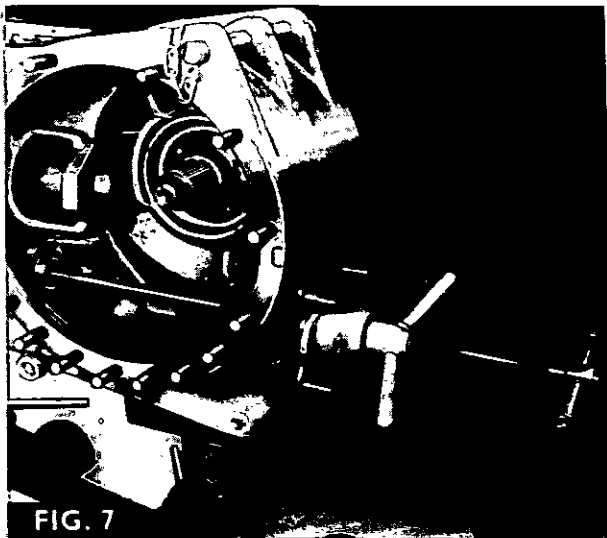

FIG. 7
8. Assemble tool MF 195-5/1 to the needle roller bearing from the front. Fit tool MF 195 and bar MF 195-5/2 to the centre housing as shown in Figure 7, screw the bar into tool MF 195-5/1 and remove the bearing.